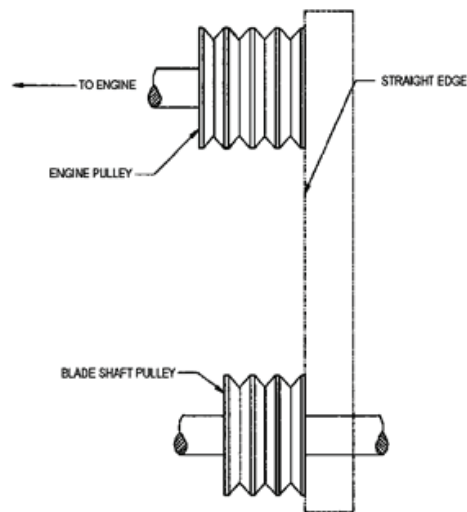

Figure 1
2. Increase tension until the belts are snug in the grooves. Run the drive for about five (5) minutes to “seat” the belts. Impose the peak load. If the belts slip, tighten them until they no longer slip at peak load. Most new belts will need additional tensioning after seating.
6. To check alignment, use a steel straight edge. See Figure 1.